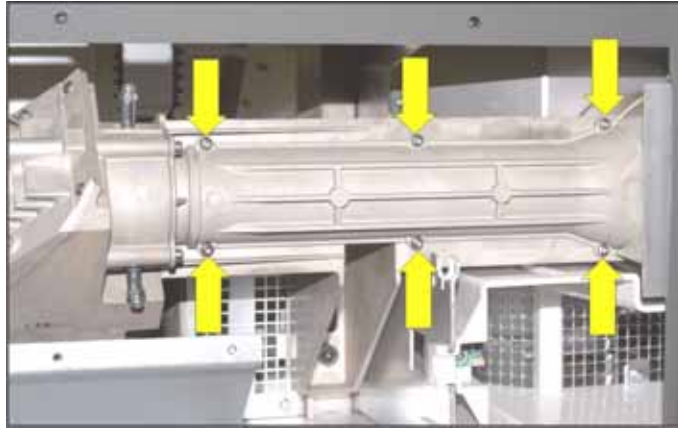

Figure 5-66 Remove Integrator Housing
- Using a 2mm hex key, remove the six screws securing the housing around the integrator (Figure 5-66).